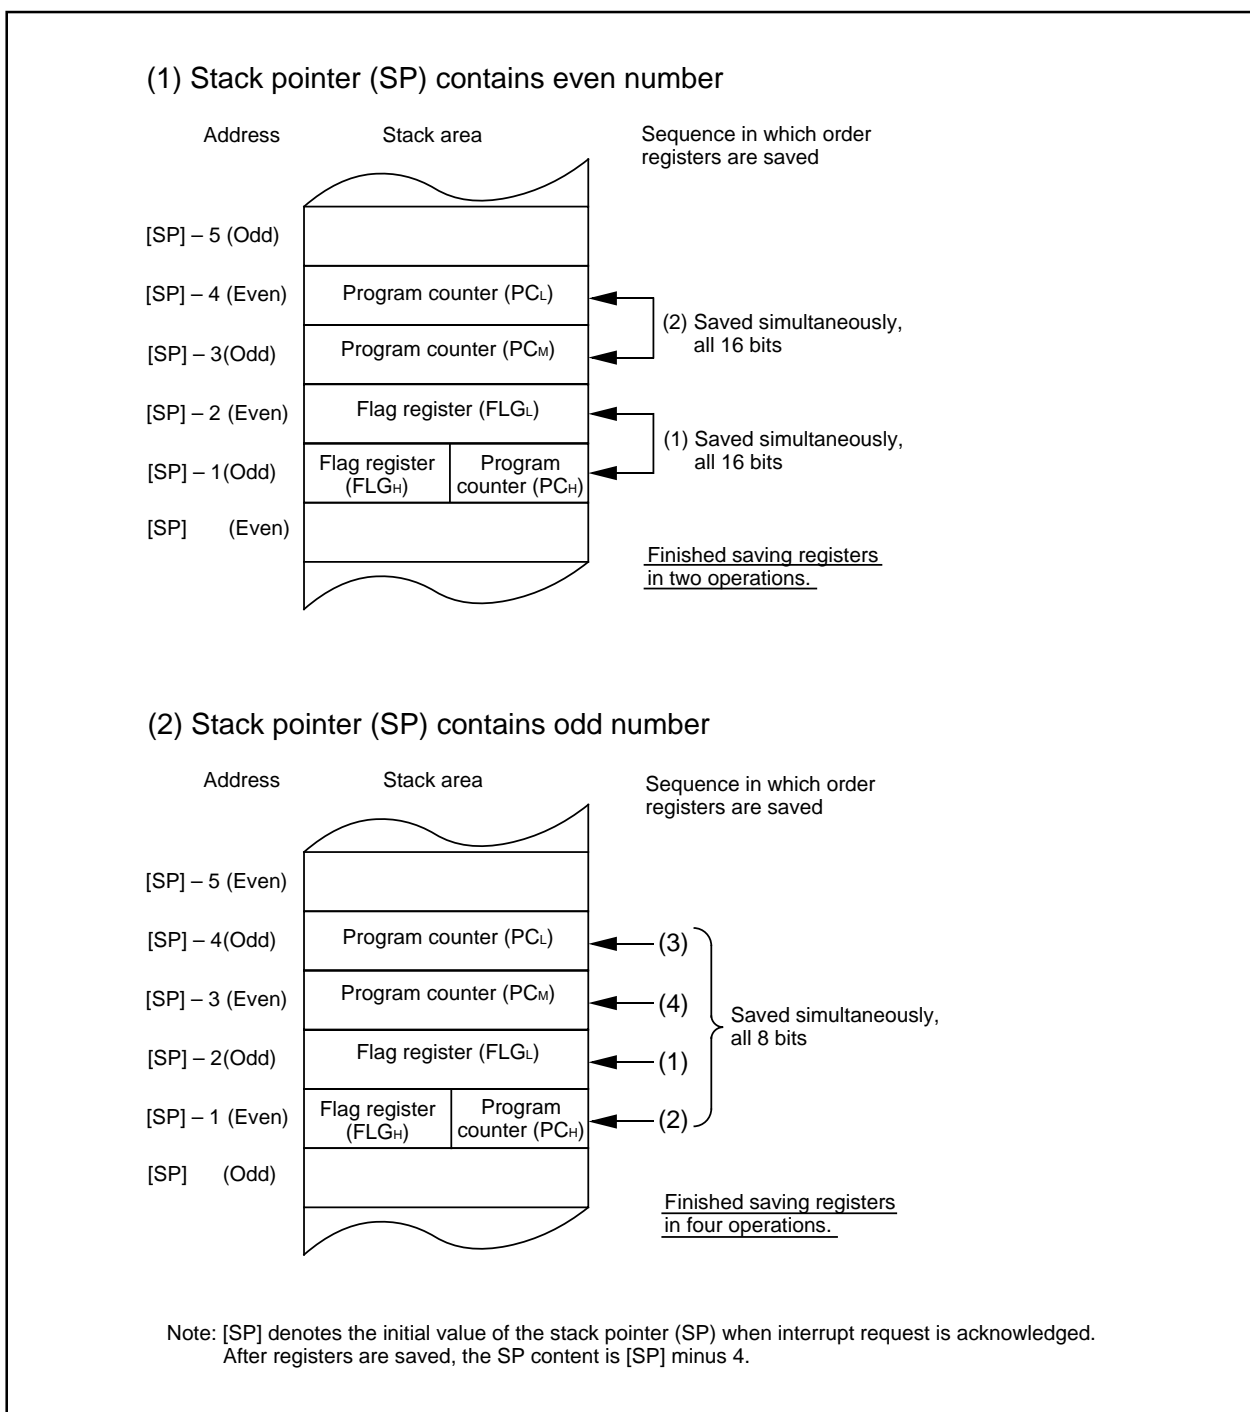

Figure 1.14.7. Operation of saving registers
The operation of saving registers carried out in the interrupt sequence is dependent on whether the content of the stack pointer, at the time of acceptance of an interrupt request, is even or odd. If the content of the stack pointer (Note) is even, the content of the flag register (FLG) and the content of the program counter (PC) are saved, 16 bits at a time. If odd, their contents are saved in two steps, 8 bits at a time. Figure 1.14.7 shows the operation of the saving registers.